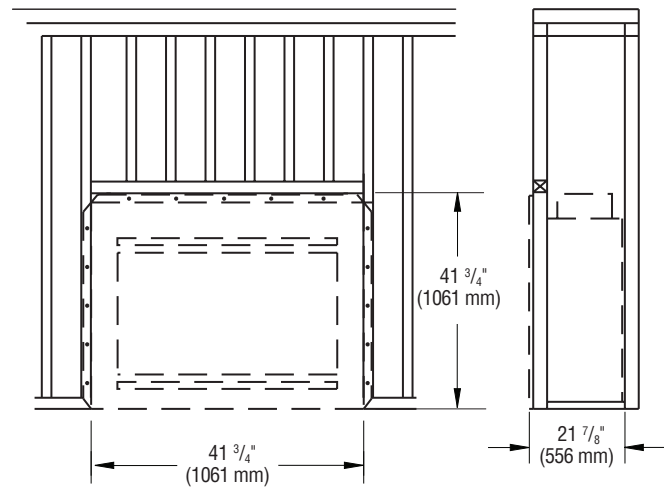

Figure 1 - Framing Dimensions
1. Location must allow for proper clearances (see Figures 1 and 2).
1. Frame opening for fireplace using dimensions shown in Figures 1 and 2.